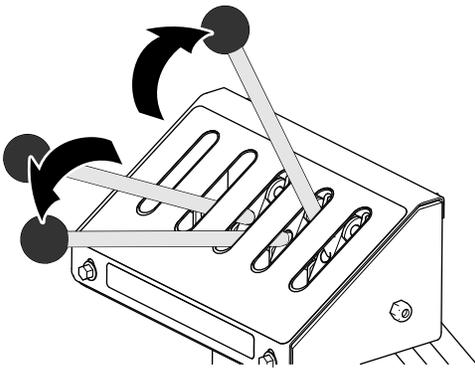

Figure 2
1. At the transport frame control console, move the 3 control levers up and down to relieve hydraulic pressure between the transport frame and the tow vehicle (Figure 2).